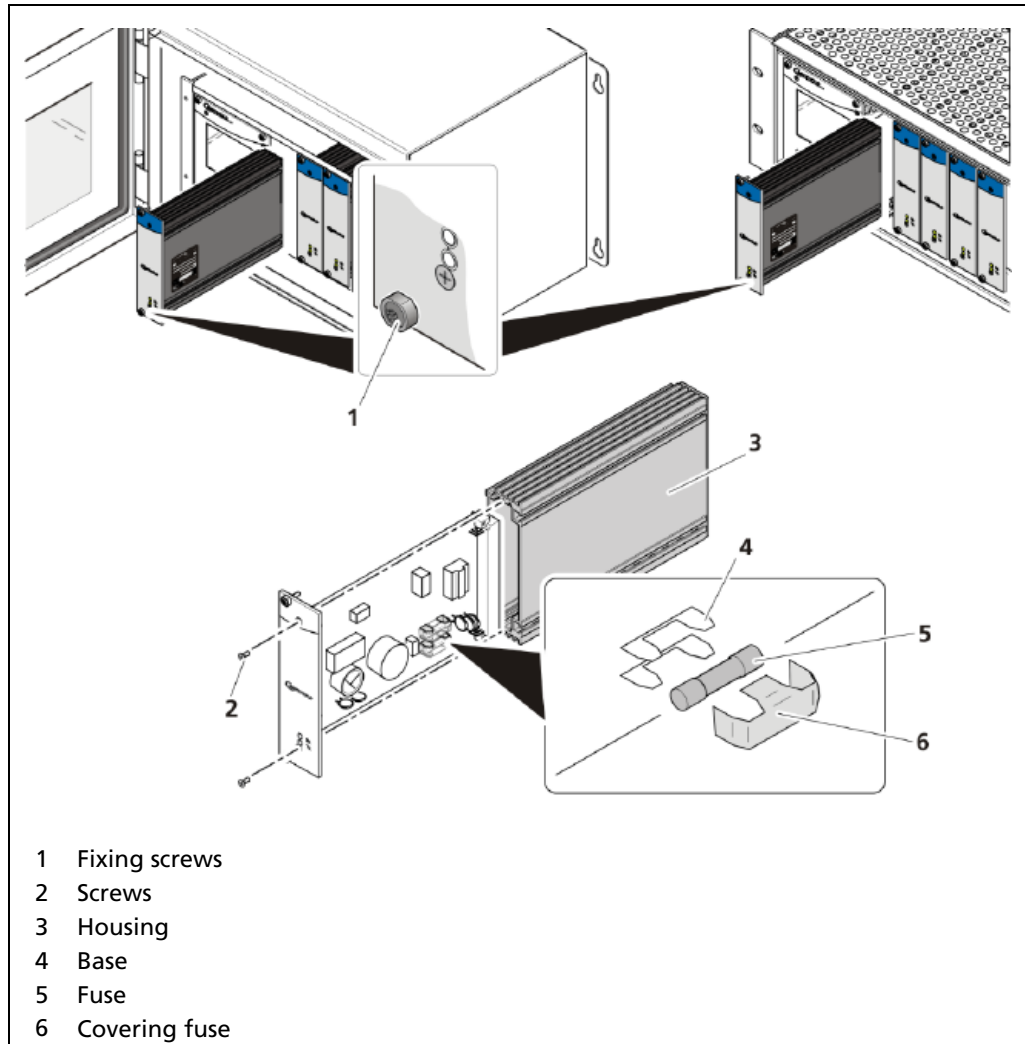

Fig. 133 Exchange fuses slave module for example
2. Loosen the four fixing screws (Fig. 133, item 1) and remove the module from the wall housing or subrack.
3. Loosen the two sunken screws on the front side of the module (Fig. 133, item 2).
4. Pull out the housing (Fig. 133, item 3) carefully.
5. Remove the protective covering of the fuse (Fig. 133, item 6).
6. Remove the fuse (Fig. 133, item 5).
11. Tighten all fixing screws (Fig. 133, item 1).